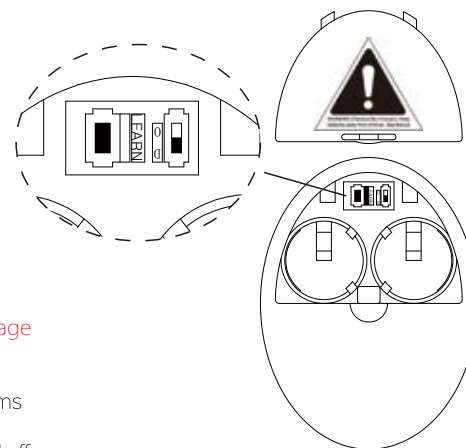

Fig. 19
ACTIVATING THE LEARNING PROCESS(Fig.19)
2. After installation is complete, AC power is turned on within 30 seconds,press and hold the LEARN button for 3 seconds. Fan will turn on at medium speed and light (if installed) will turn on. This confirms that the SMART SYNC setting is active and ok. (FIG.19)
LIGHT FUNCTION SELECT SWITCH(Fig.19)